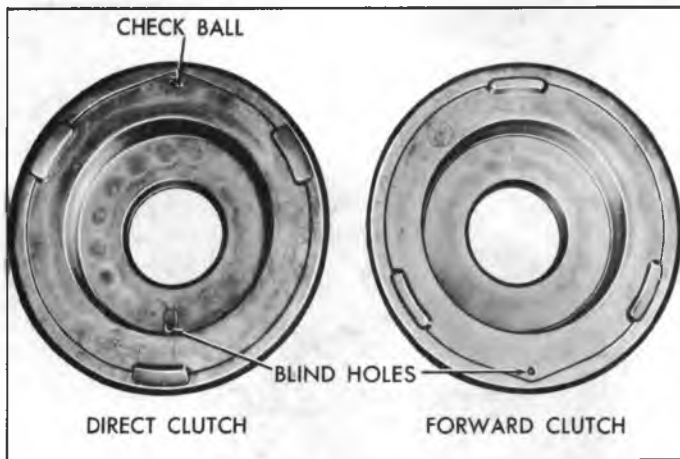

Fig. 89T--Forward and Direct Clutch Piston Identification
**NOTE:** The Turbo Hydra-Matic forward and direct clutch pistons have identical inside and outside diameters. It is possible to reverse the pistons during reassembly, therefore, care should be exercised to make certain the proper piston be installed in the clutch assemblies. As shown in Figure 89T, the direct clutch piston can be identified by the check ball.
**NOTE:** The Turbo Hydra-Matic forward and direct clutch pistons have identical inside and outside diameters. It is possible to reverse the pistons during reassembly, therefore, care should be exercised to make certain the proper piston be installed in the clutch assemblies. As shown in Figure 89T, the direct clutch piston can be identified by the check ball. On CY model, the direct clutch piston has 2 check balls.